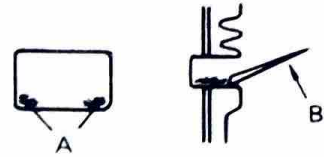

Fig. 4-3-6
Avoid the use of files for carbon removal, because the carbon build-up can not be completely removed as shown in Fig. 4-3-6, or undesirable cuts in these ports may be the result. It is advisable to use a carbon scraper (B) and remove the carbon from every corner of the port. (Fig. 4-3-6)